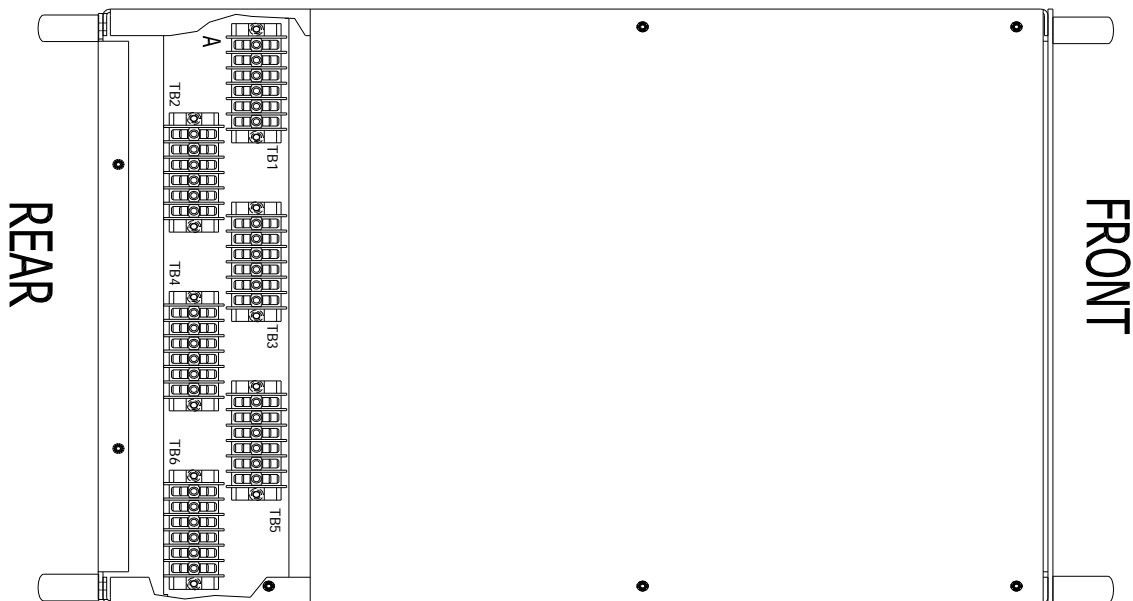

FIGURE 3.2.4 MODEL 3120-ASX OUTPUT VOLTAGE RANGE CONFIGURATION
Refer to Figure 3.2.4 for location of components referenced below and range tap selection information.
- 2) Wire for 1.5:1 ratio as per wire table of Figure 3.2.4.